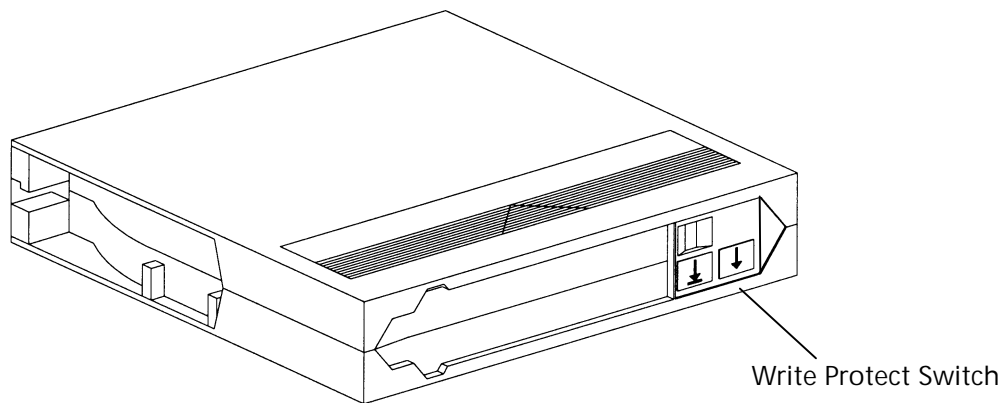

Figure 5 Location of Write Protect Switch
8. Finally, check for proper operation of the tape cartridge's Write Protect Switch (Figure 5). This sliding switch, located on the end of the tape cartridge used for the tape label, should snap smartly back and forth, and the orange tab should be visible when the tape cartridge is set to provide Write Protection (data on the tape cannot be written over).